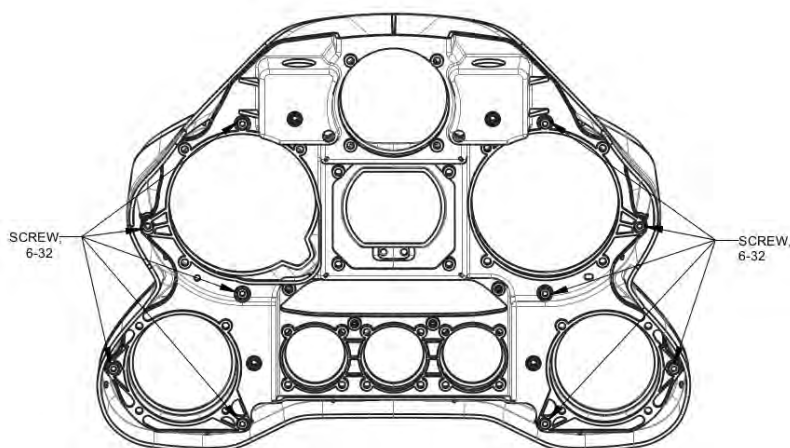

FIGURE 14-21
6. Remove cluster bezel by removing 10 #6-32 mounting panel attachment screws. See Figure 14-21.